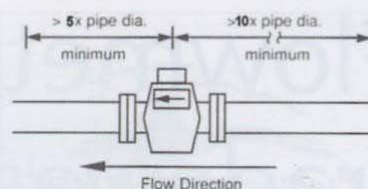

Figure 3: Straight pipe requirements.
- To prevent turbulence in the flow that may hinder correct flow readings, ensure that there is at least 10 diameters of straight pipe before the sensor and 5 diameters of straight pipe after (Figure 3) eg, for 50 mm diameter pipe, the straight pipe required is 10 x 50 mm = 500 mm of straight pipe before the meter, and 5 x 50 mm = 250 mm of straight pipe after the meter.